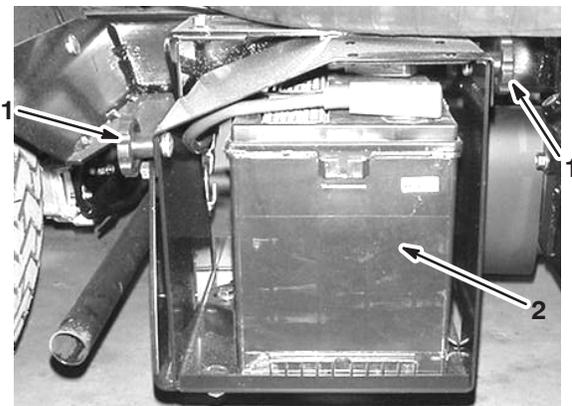

Figure 60
2. Loosen the knobs on the sides of the battery box and remove the battery cover (Fig. 60).
3. Remove the battery retainer and fasteners (Fig. 60).
3. Install the battery retainer and secure it with the fasteners you removed previously (Fig. 60).
4. Install the battery cover and secure it with the 2 knobs (Fig. 60).
1. Loosen the knobs on the sides of the battery box and remove the battery cover (Fig. 60).